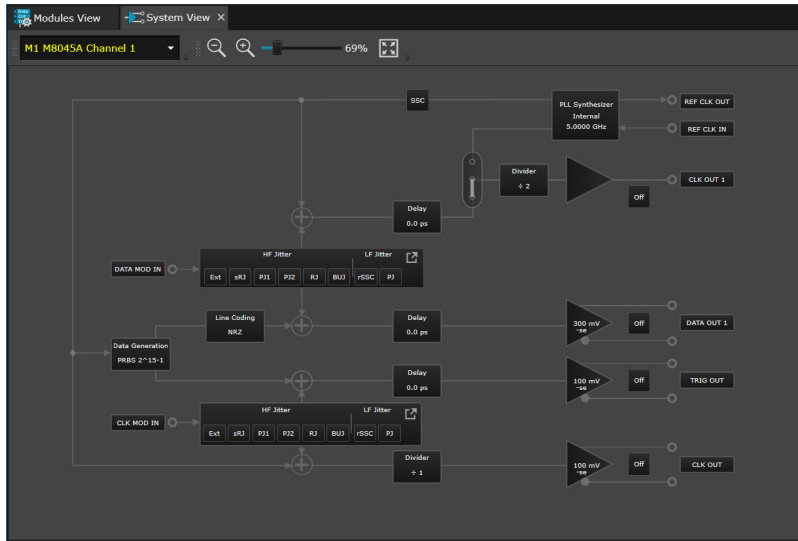

Figure 19 Synthesizer parameters
- b Click on the **PLL Synthesizer Internal** block as shown in Figure 19 on page -51 to display the **Synthesizer** properties.